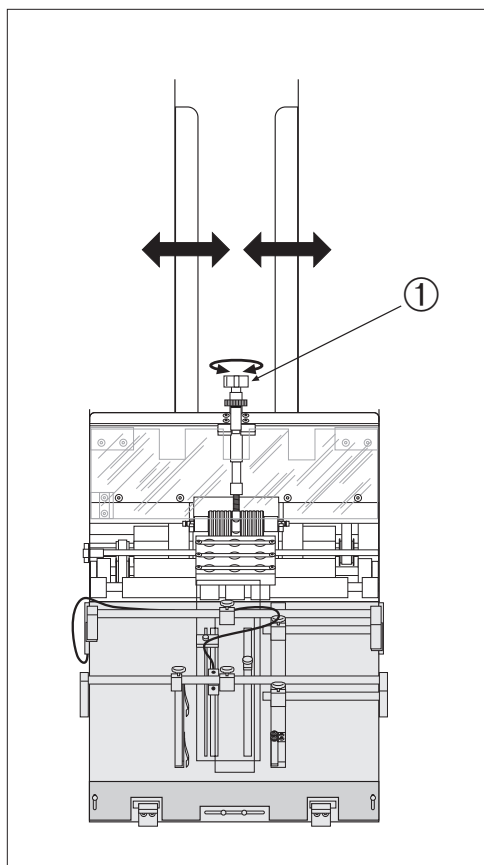

Figure 7. Horizontal Adjustment of Side Guides
2. Using the side guides adjustment knob (centrally located between the two guides), turn in either direction until guides are located at the recommended distance from the envelope: 1/16 inch (1.6 mm) from each edge, 1/8 inch (3.1 mm) overall (Figure 7, ①).